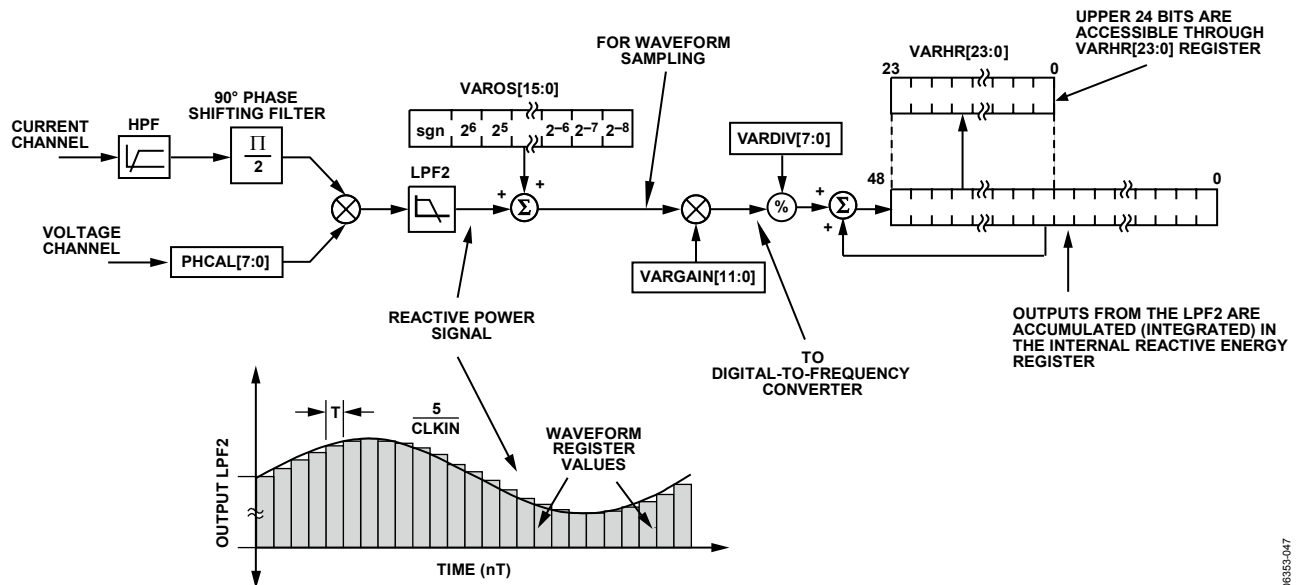

Figure 71. Reactive Energy Calculation
The instantaneous reactive power signal $q(t)$ is generated by multiplying the voltage and current channels. In this case, the phase of the current channel is shifted by 90°. The dc component of the instantaneous reactive power signal is then extracted by a low-pass filter to obtain the reactive power information (see Figure 71).
Figure 71 shows the signal processing chain for the ADE7569/ADE7169 reactive power calculation. As explained in the Reactive Power Calculation for the ADE7569/ADE7169 section, the reactive power is calculated by applying a low-pass filter to the instantaneous reactive power signal. Note that, when reading the waveform samples from the output of LPF2, the gain of the reactive energy can be adjusted by using the multiplier and by writing a twos complement, 12-bit word to the VAR gain register (VARGAIN[11:0]). Equation 25 shows how the gain adjustment is related to the contents of the watt gain register.
The ADE7569/ADE7169 also incorporate a reactive power offset register (VAROS[15:0]). This is a signed, twos complement, 16-bit register that can be used to remove offsets in the reactive power calculation (see Figure 71). An offset can exist in the reactive power calculation due to crosstalk between channels on the PCB or in the IC itself. The offset calibration allows the contents of the reactive power register to be maintained at 0 when no power is being consumed.
The discrete time sample period (T) for the accumulation register in the ADE7569/ADE7169 is $1.22 \mu\text{s}$ ($5/\text{MCLK}$). As well as calculating the energy, this integration removes any sinusoidal components that may be in the active power signal. Figure 71 shows this discrete time integration or accumulation. The reactive power signal in the waveform register is continuously added to the internal reactive energy register.
As shown in Figure 71, the reactive power signal is accumulated in an internal 49-bit signed register. The reactive power signal can be read from the waveform register by setting the WAVMODE register (0x0D) and setting the WFSM bit in the Interrupt Enable 3 SFR (MIRQENH, 0xDB). Like the current and voltage channel waveform sampling modes, the waveform data is available at sample rates of 25.6 kSPS, 12.8 kSPS, 6.4 kSPS, or 3.2 kSPS.